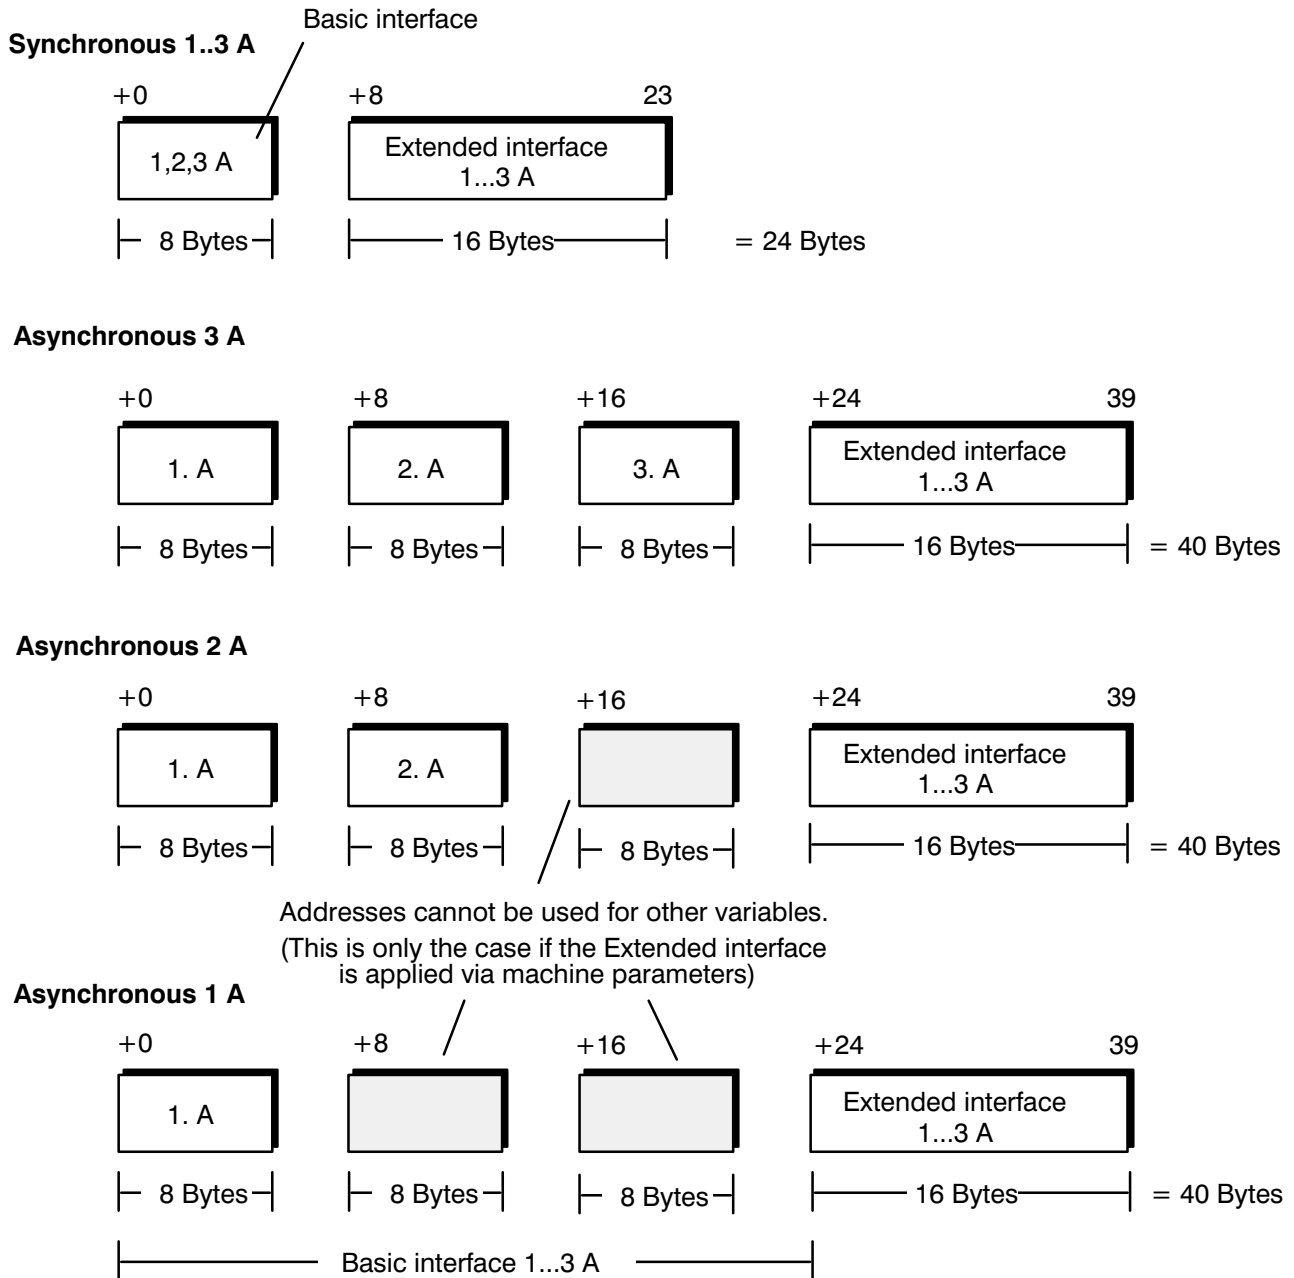

Fig. 7.2
- Memory space must be made available (according to the selected configuration; see fig. 7.2) in the PLC for the interface signals. Markers, data modules, data buffers or data field areas can be defined as memory areas.
- The number of bytes transferred depends on the configuration selected in the machine parameter (see fig. 7.2).
In synchronous mode, the CC10.3 / PLC interface occupies 8 bytes of input area and 8 bytes of output area. A diagram area is defined for this in operands M, D, DB or DF. This area is used to depict firstly the CC10 inputs, and the CC10 outputs directly afterwards. The PLC interface can be extended in machine parameter P0042 by 16 bytes of input area and 16 bytes of output area for additional functions (see fig. 7.2).